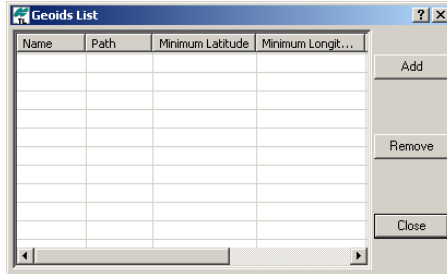

Figure 3-36. Geoids List Dialog Box
2. On the **Geoids List** dialog box, click **Add** (Figure 3-36).